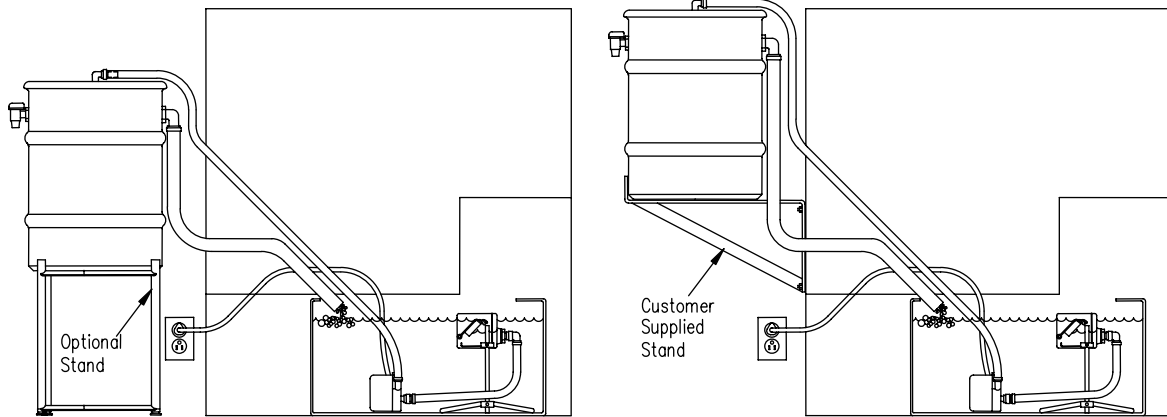

Figure 5
1. Mount the reservoir on or near the machine so the coolant level in the reservoir is above the coolant level in the machine sump. The reservoir tank can be mounted on the machine itself or on the optional stand (see Figure 5). Mount the reservoir as close to the coolant sump as possible to minimize the distance the coolant must be pumped from the sump to the reservoir. The pump capacity diminishes as the distance it must pump fluid increases. Position the reservoir tank to allow easy access to the oil drain faucet. Make sure the tank is level.
2. Connect one end of the 1" ID PVC tube to the 1" elbow on the side of the reservoir tank. Secure the end with a hose clamp. Route the tube to the sump so the fluid can flow downhill from the reservoir tank to the sump (see Figure 5). Do not submerge the end of the hose in the coolant. Keep the end of the hose above the fluid to allow aeration to take place as the fluid enters the tank and to assure proper draining.